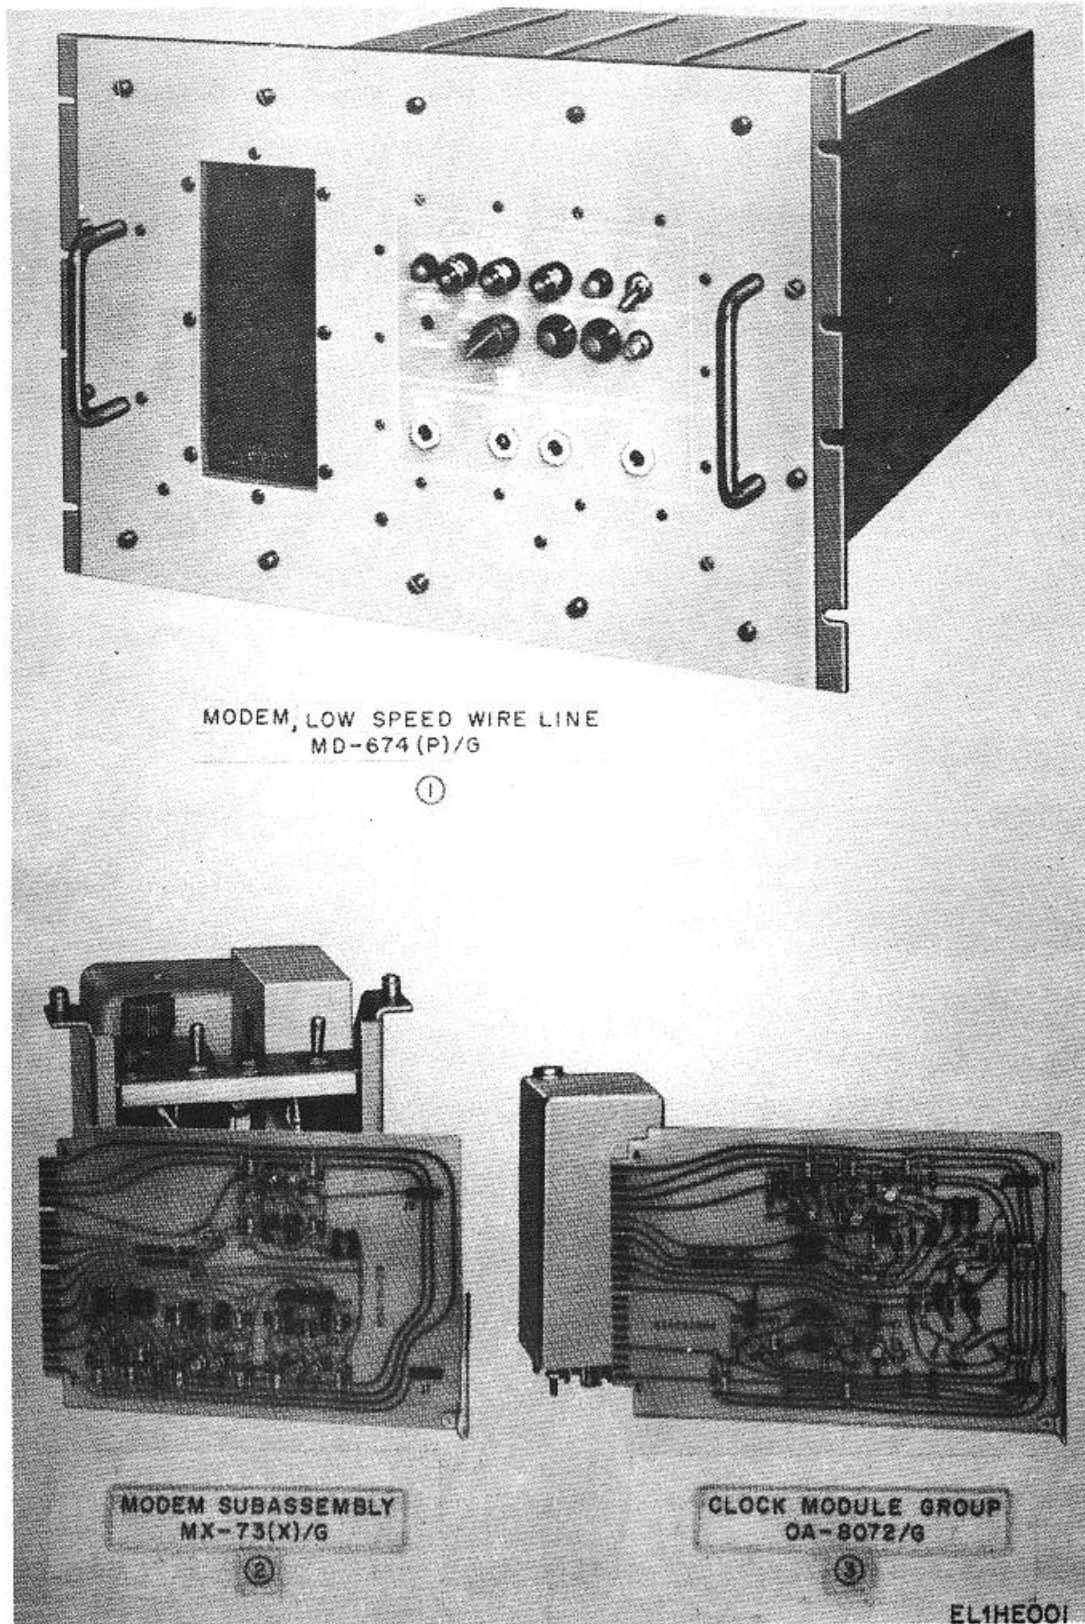
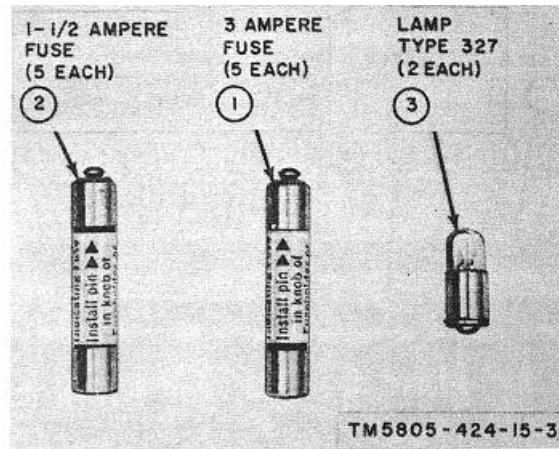
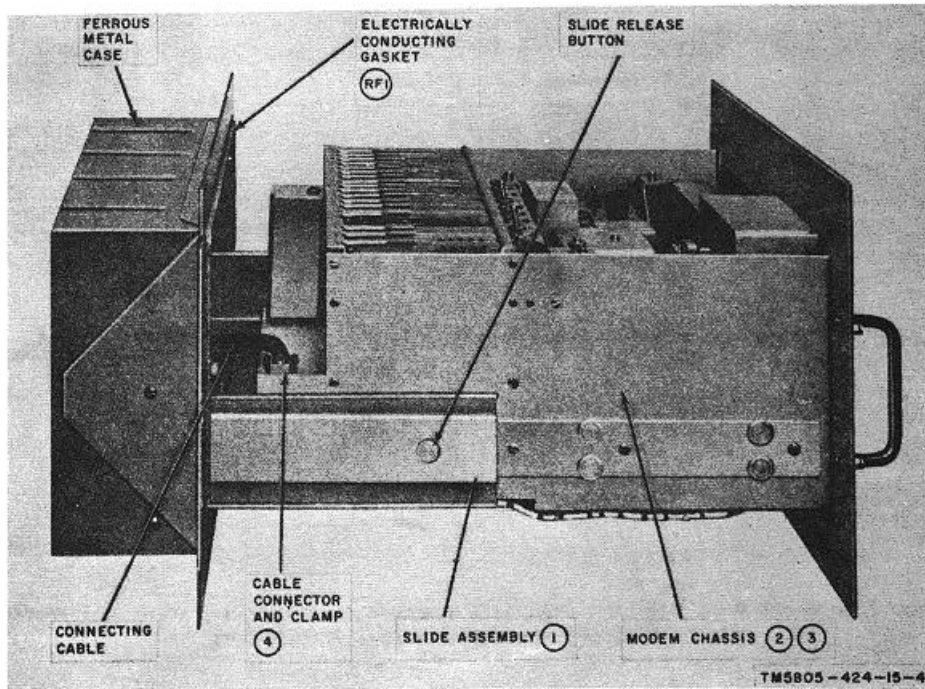

Figure 1-2. Modem, Low Speed Wire Line MD-674(P)/G, Modem Subassembly MX-73(\*)/G, and Clock Module Group OA-8072/G.
Figure 1-3. Running spares.
Figure 1-4. Modem, Low Speed Wire Line MD-674(P)/G, extended from case.
The MD-674(P)/G (fig. 1-2) consists of one MX-73(\*)/G as determined by the site of requirements, and may contain the OA-8072/G, if the MD-674(P)/G is used to supply the station clock signal (para 1-4). The MD-674(P)/G is also supplied with running spares (fig. 1-3) to insure minimum downtime. The MD-674(P)/G may be mounted in a standard, 19-inch rack and contains a drawer-type chassis (fig. 1-4). A printed-circuit (PC
- b. Disengage the cable connector at the rear of the chassis (fig. 1-4).